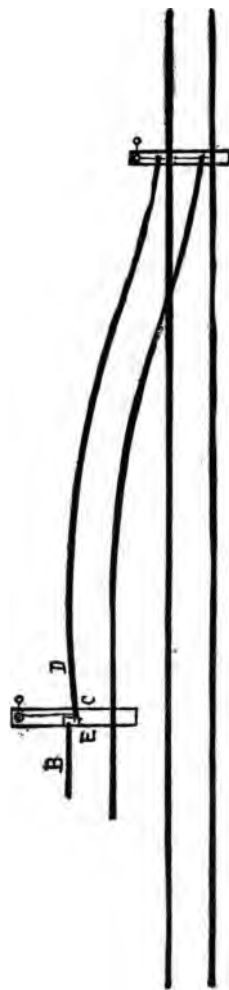

FIG. 21.
16. Fig. 21 illustrates a method of derailing cars and is used in cases where extra precautions are required to prevent cars from accidentally running out of the siding upon the main track.